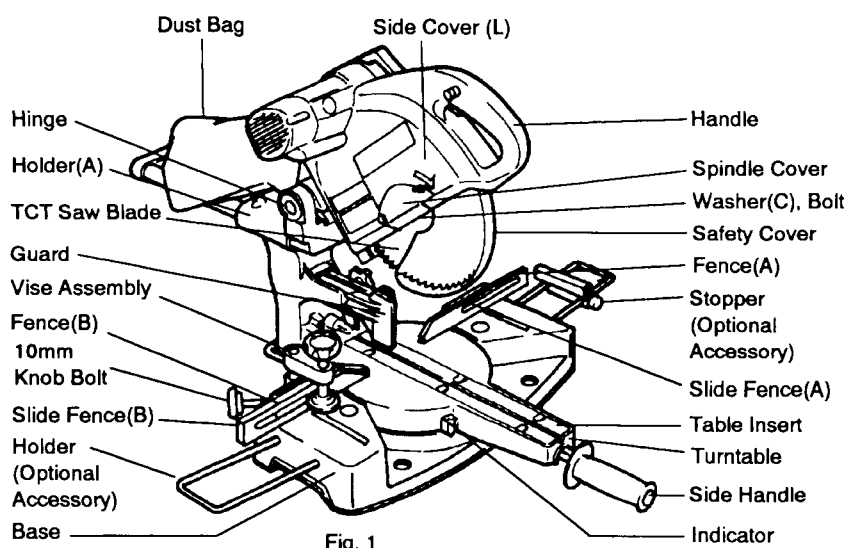

Fig. 1
- ① Extension Holder and Stopper (Fig. 1)
- ② Saw blade 10" (255mm) TCT Saw blade (Total teeth:60)
- ③ Saw blade 10" (255mm) TCT Saw blade (Total teeth:90)
- ④ Saw blade 10" (255mm) TCT Saw blade for aluminum sash (Total teeth:72)